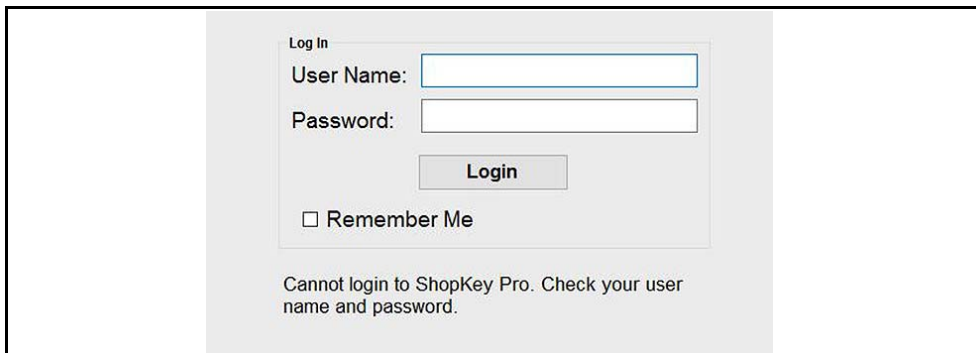

Figure 15-6
2. Selecting **OK** in either scenario above will display the login screen (Figure 15-6).
At the login screen (Figure 15-6), continue the login process using your applicable scenario: